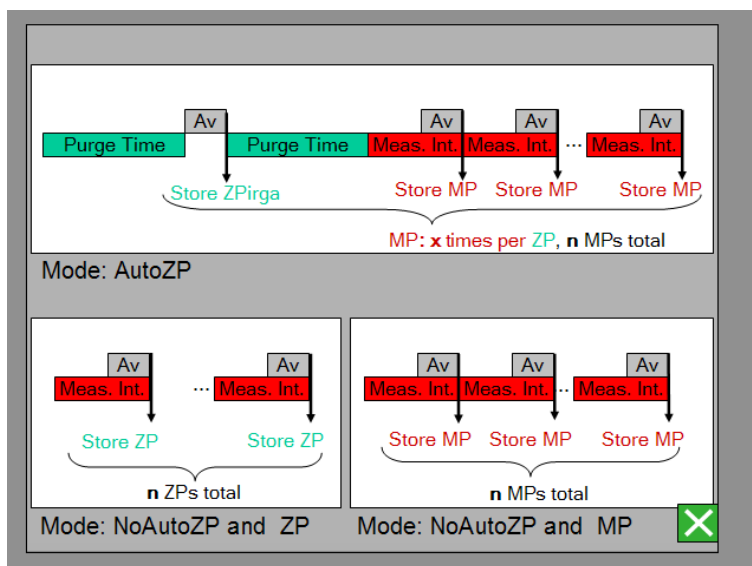

Fig. 35: Illustration of sampling sequences (fluorescence module not enabled).
There are several optional sequences. The simplest one is to just take measuring points (MP), however this can be expanded upon by taking additional zero points (ZP) and yield measurements if a fluorescence module has been attached. Also the instrument can be switched to ZP mode to only take ZPs instead of MPs. These different modes are illustrated in Fig. 34 and Fig. 35. Fig. 34 shows the standard view with fluorescence module, whereas Fig. 35 shows the expanded illustration without fluorescence module.